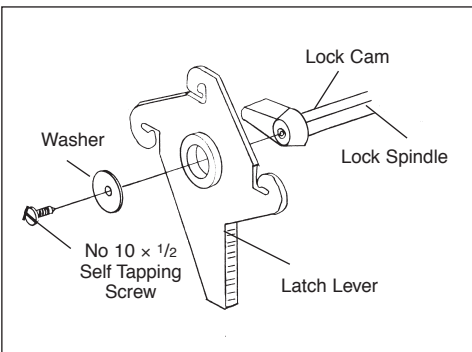

**FIG 4**
Remove the retaining pin from the Spring Anchor Bush with assistance of spanner on pulley (see fig. 4). You now have tension on the door. Take out 2 transit screws and spacer from each upper weather strip. Open/close door through full travel to test runner position. If necessary make final adjustment to runners for correct operation. With door open insert 5 screws per side (No. 8 x 1") down each side runner.
2. Wearing safety glasses, close door and grip R/H blue pulley with 22mm A/F spanner and by turning upwards, align holes in spring anchor bush and spring shaft. Insert retaining pin (4mm dia. x 50mm split pin or similar) fully into this hole as shown, then remove the spanner. (See Fig. 4)